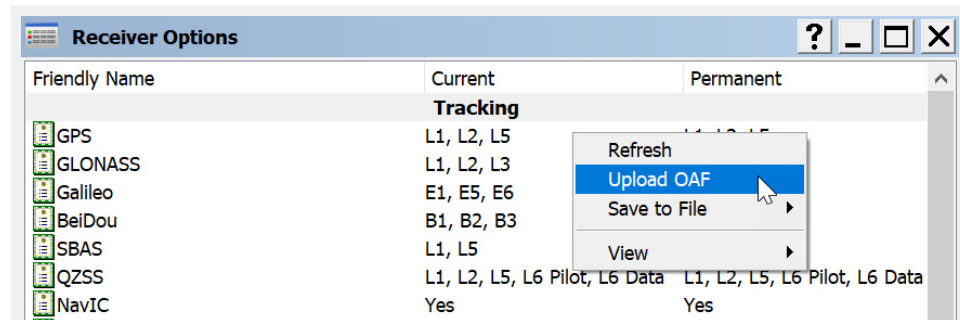

Figure 5-10: Right-click and Select Upload OAF
2. Right-click on the **Receiver Options** window, and select **Upload OAF** (Figure 5-10).